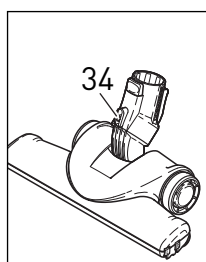

Figure 6
**The vacuum can be stored with the canister in a horizontal or vertical position (figures 6, 7 & 8).** The Parquet brush, Kombi nozzle and Turbo brush have a parking tab located on the front of the neck (34). Insert the parking tab into the upper side of the parking groove (18 or 22) and slide down firmly. For vertical storage, or for easy carrying, use the parking groove on the underside (18). For horizontal storage, use the parking groove on the end of the canister (22).